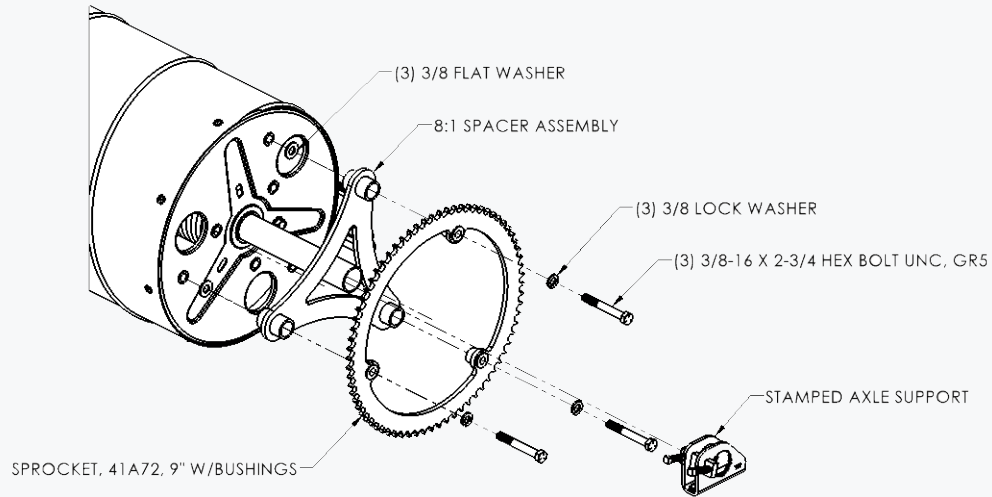

figure 11: Electric Operator
- ✦ Attach 8:1 Spacer Assembly and Sprocket to drum using (3) 3/8" flat washers, (3) 3/8" lock washers, and (3) 3/8-16 x 2-3/4" hex bolts as shown in **Figure 11**.